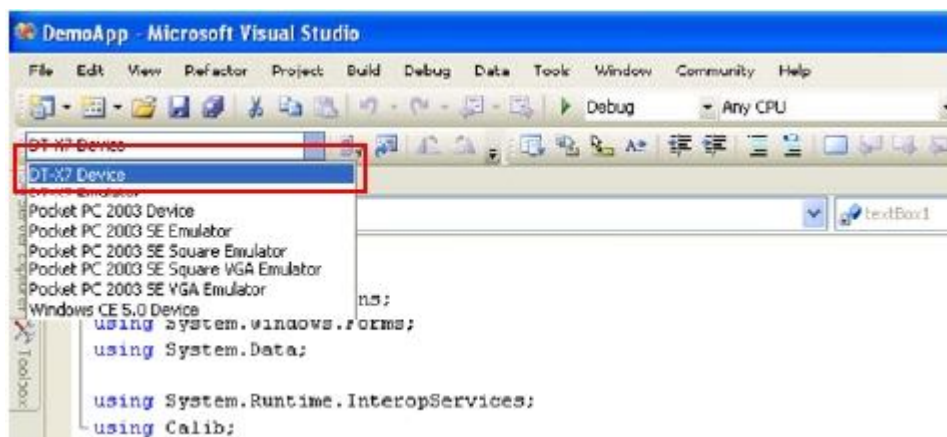

Figure 3.2
4. Choose **DT-X7 Device** in the pull-down menu box in Figure 3.2.